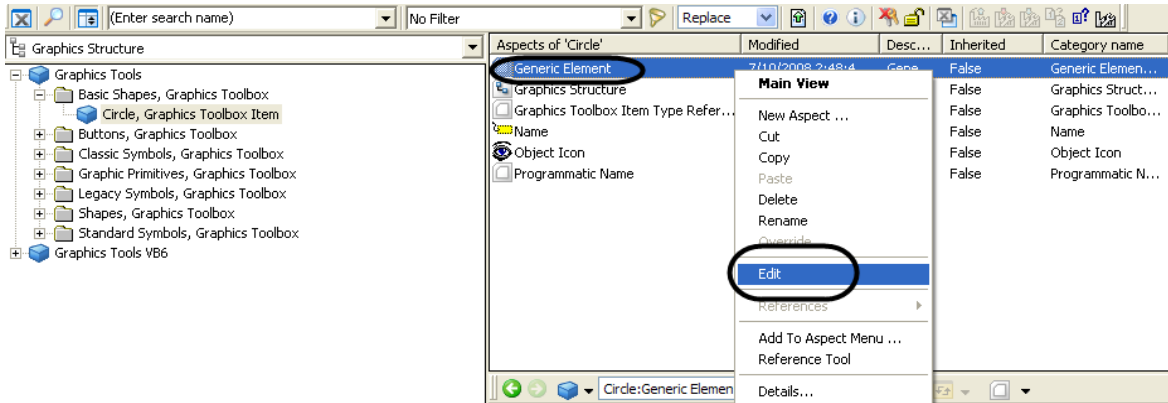

Figure 271. Editing Generic Element and Programmatic Name
**Generic Element** appears for the object in the aspect list as shown in Figure 271.
3. Select the **Programmatic Name** aspect of the toolbox item object as shown in Figure 271.